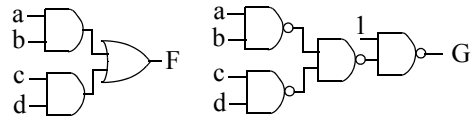

Figure 2.81
- 2.52 Determine whether the two circuits in Figure 2.81 are equivalent circuits using: (a) algebraic manipulation, and (b) truth tables.